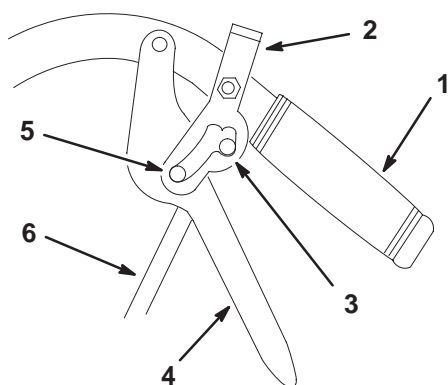

Figure 53
1. Adjust the rod length by releasing the drive lever and removing clevis pin. Rotate the rod in the rod fitting (Fig. 53).
5. Place the hairpin back into clevis pin (Fig. 53).